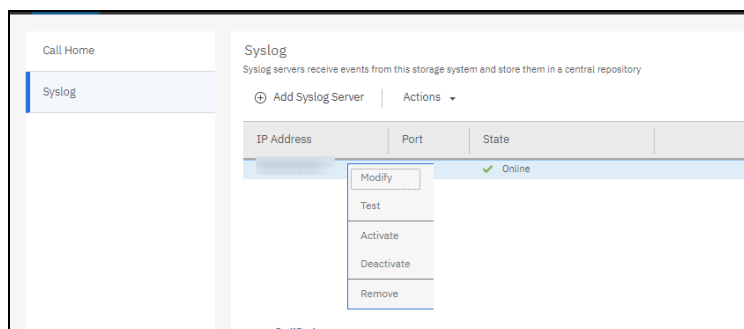

Figure 9-31 Modify Syslog configuration
8. After the required syslog servers are created, you can **Modify**, **Test**, **Activate**, **Deactivate**, and **Remove** a selected syslog server, as shown in Figure 9-31.